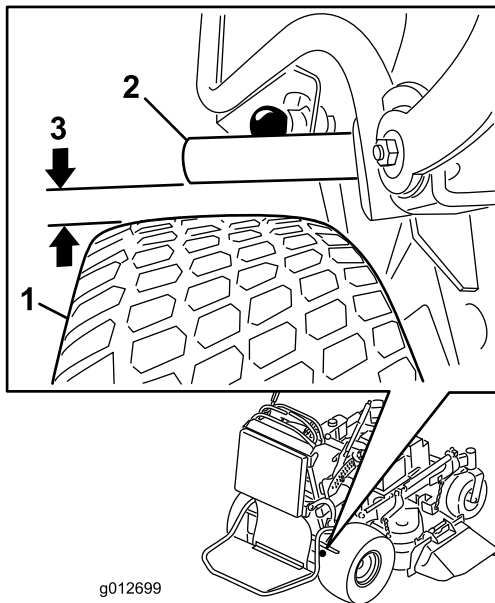

Figure 62
4. With the brake released, measure the distance between the brake bar and the tire. The distance needs be between 3/16 and 5/16 inches (5 and 8 mm) (Figure 62). Refer to Adjusting the Parking Brake when adjustment is needed.
5. Adjust the yoke. The distance between the brake bar and the tire needs be between 3/16 and 5/16 inches (5 and 8 mm). To tighten the brake, rotate the yoke up. To loosen the brake, rotate the yoke down (Figure 62).